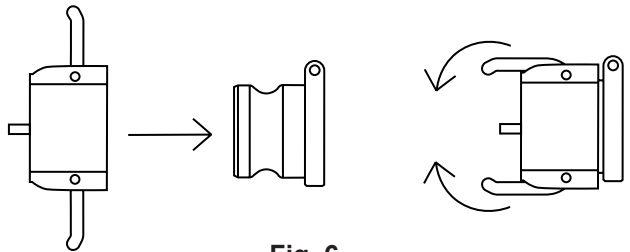

Fig. 6
The 1.5" and 2" HOSE connectors have cam lever dust covers (Fig. 6) that are chained to the manifold for retention. Always have the HOSE CAMS in place and locked before moving the trailer. Loose HOSE CAMS may come free at highway speeds, leading to injury.
8. Disconnect the hose. Place the HOSE CAM on the hose connection and lock into place (Fig. 6), -or- rotate the HOSE BIBB handle clockwise to OFF (Fig. 3).